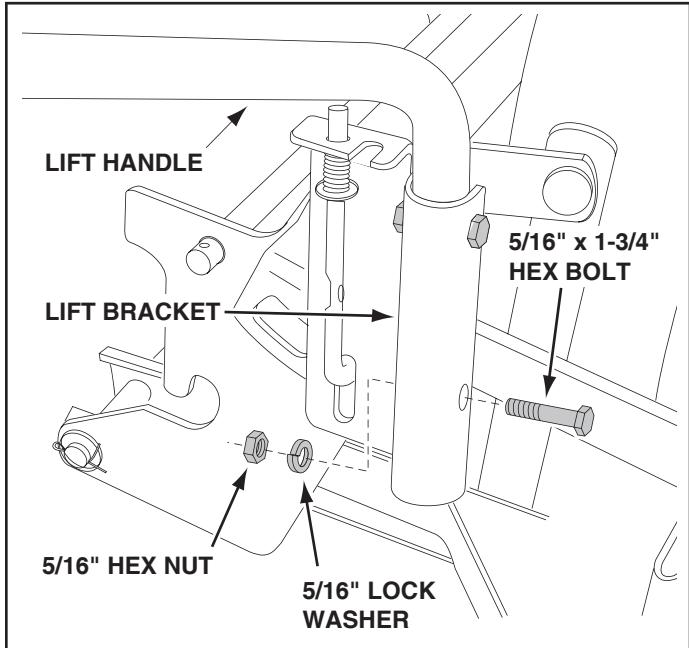

FIGURE 14
- Place the lift handle into the lift bracket on the right side of the snow thrower. Fasten the handle to the bracket using two 5/16" x 1-3/4" hex bolts, 5/16" lock washers and 5/16" hex nuts. See figure 14.